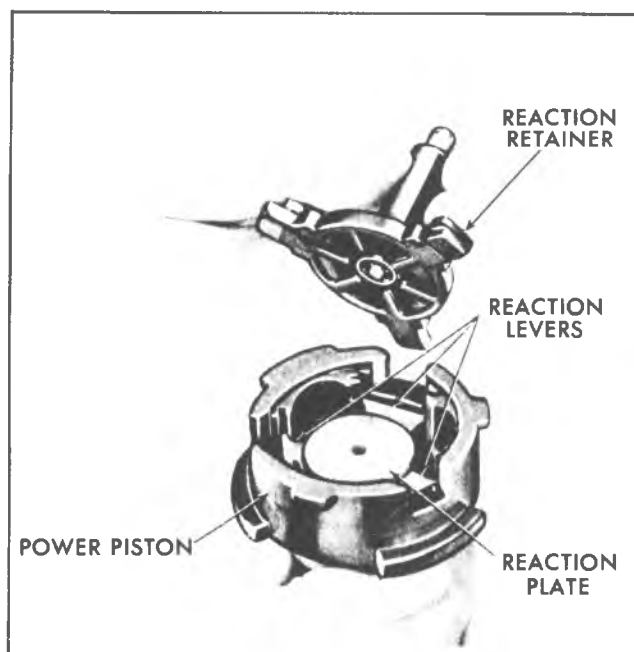

Fig. 5-5C—Removing Reaction Retainer
4. Remove reaction retainer, piston, reaction plate, three (3) reaction levers and air valve spring. Also remove reaction bumper and air valve spring retainer from air valve (fig. 5-5C).